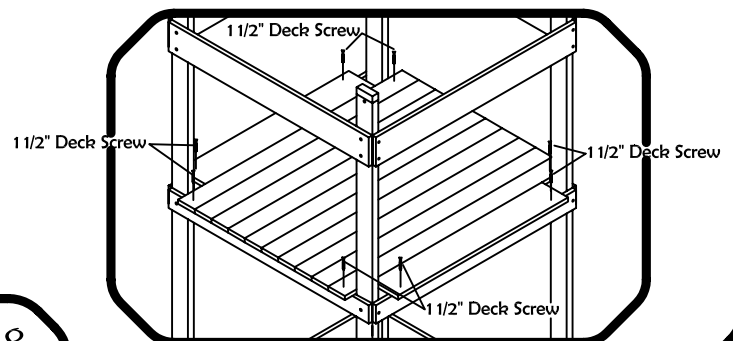

FIG. 4
Step 1: Gather (2) End Floor Boards 'F', (2) Floor Boards 'K', (2) Floor Panels 'AB', (4) Cleats 'AA', (1) Floor Brace 'X' & (1) Fort Rail 'M'.
Step 3: Place floor boards and panels on fort where shown. Align loose floor boards with panels and center end floor boards between uprights. Secure Floor Boards 'K' and End Floor Boards 'F' to 'O' & 'M' with 1 1/2" deck screws where shown. (see fig. 4)